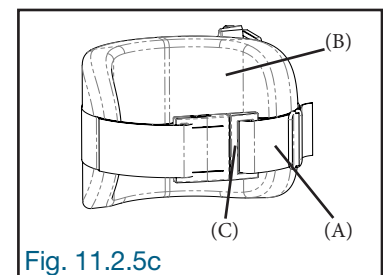

Fig. 11.2.5c
The strap (A) of the knee stop (B) must be adjusted and tightened to the user's body to hold it in place. To do this, adjust the length of the strap (A) by sliding it on the buckle (C) to the required length. Once the length is determined, attach the buckle (C) firmly (Fig. 11.2.5c).